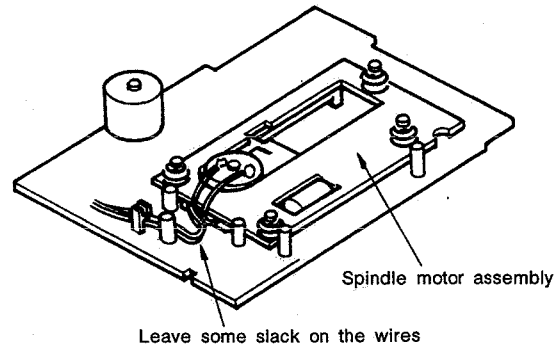

Fig. 8
5. Spindle Motor Assembly Replacement Precautions (Fig. 8)